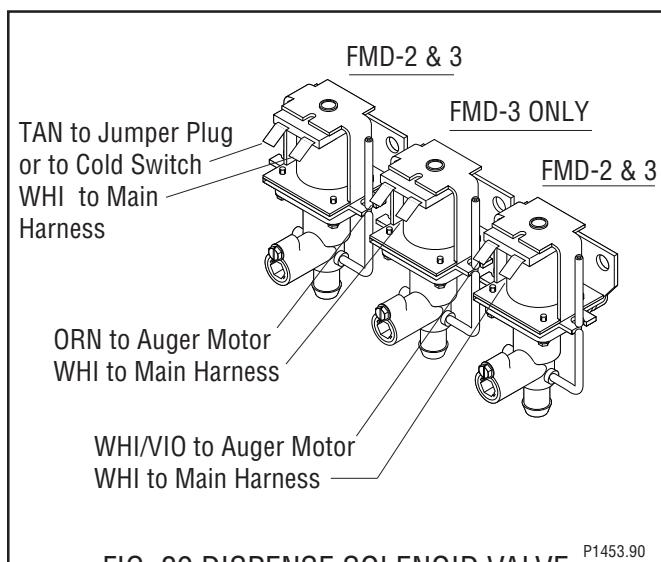

FIG. 29 DISPENSE SOLENOID VALVE TERMINALS
8. Refer to Fig. 29 when reconnecting the wires.